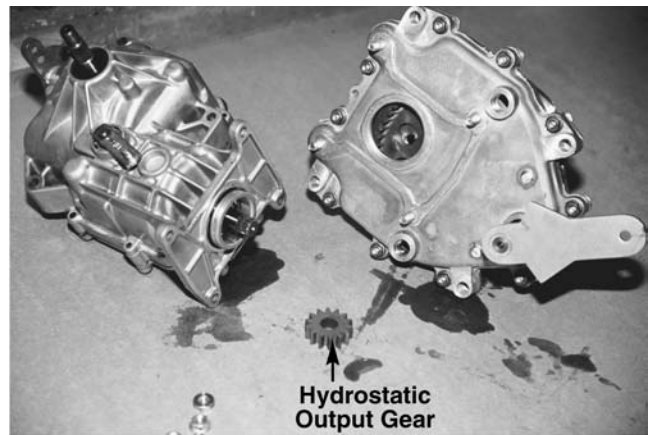

Figure 10-44.
4. While separating the pump from the housing notice that the input pinion gear slides easily on and off the shaft. Make sure that the gear does not fall into the transmission housing during removal. Also notice that the four studs that stick out of the housing are pressed into the housing. When you remove the pump, do not jar these studs or allow them to fall into the housing. See Figure 10-44.